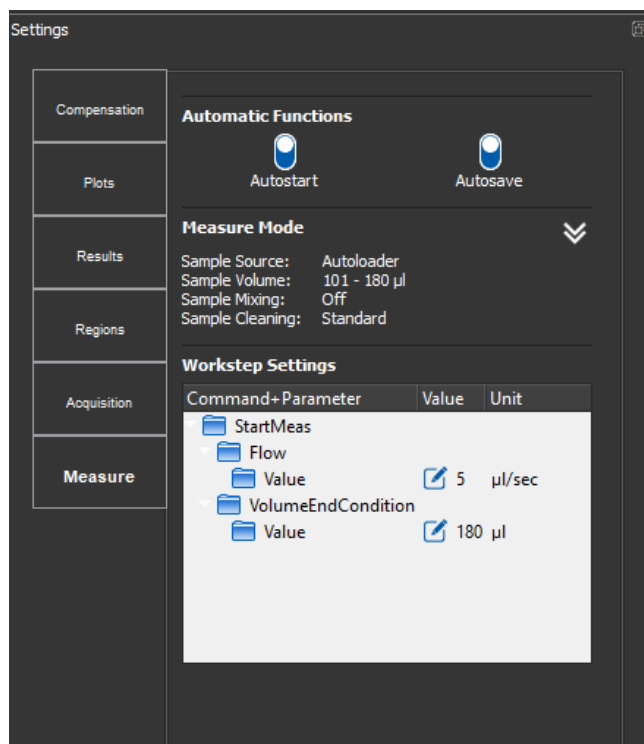

Figure 31. Settings for running the SAFIA cleaning programme (Cleaning-MTP)
5. Check that the following settings are configured under *Settings*  → *Measure* (see Figure 31).